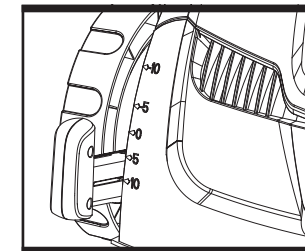

Fig. 8b
2). Adjust the lever (10) to one out of the five stages. Read the adjusted depth from the scale. (See Fig 8b and table)